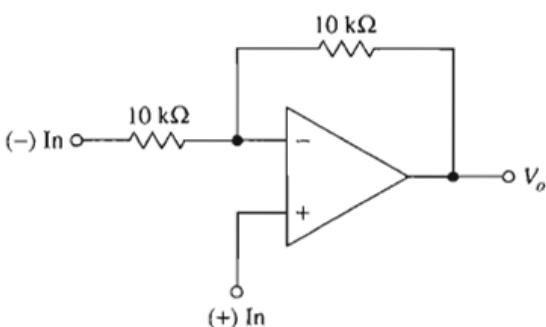

FIGURE P3-15
- 3-16. A 5-V peak-to-peak sine wave, E_i , is applied to (+) In of Fig. P3-15. Plot V_o vs. E_i if the voltage of (-) In is (a) +5 V; (b) -5 V. (Assume that $\pm V_{sat} = \pm 15$ V.)